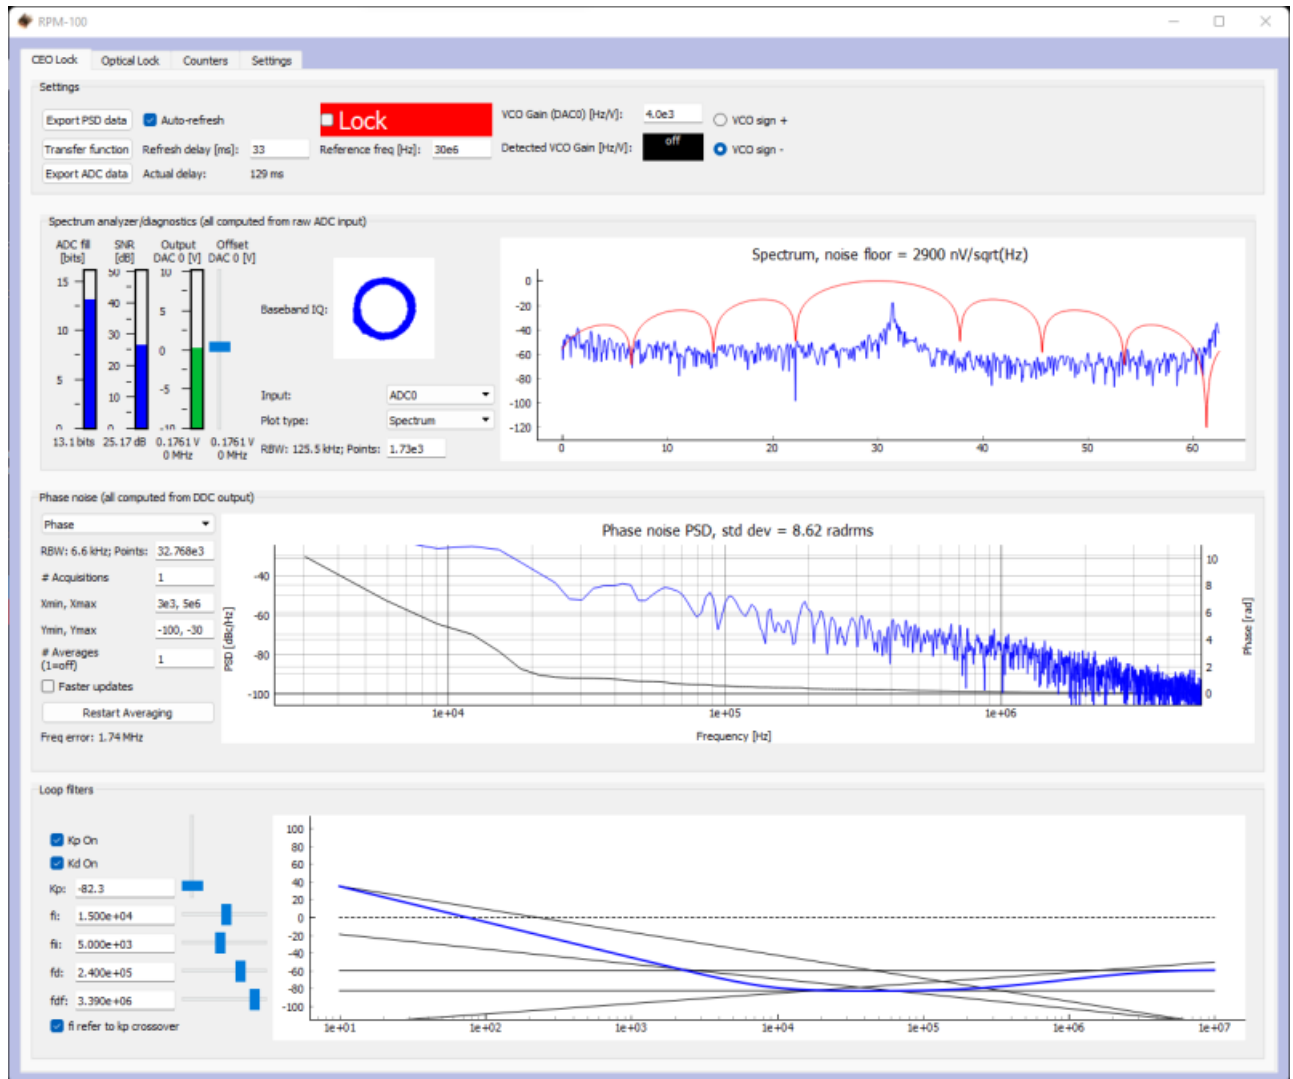

Fig. 9: Centering $f(\text{CEO})$ on reference frequency (Baseband IQ optimization)
1. Navigate to the “CEO Lock” tab and enable the “Auto-refresh” button in the top left of the window. Set your desired RF lock frequency of the f_{ceo} beatnote in the “Reference Frequency [Hz]” input. Adjust the “Offset DAC 0” slider near the top left by clicking and dragging the slider until the Beatnote is roughly centered in the red filter trace (figure 9). It is also possible to adjust the FFC-100 oscillator current on its front panel to make this adjustment.